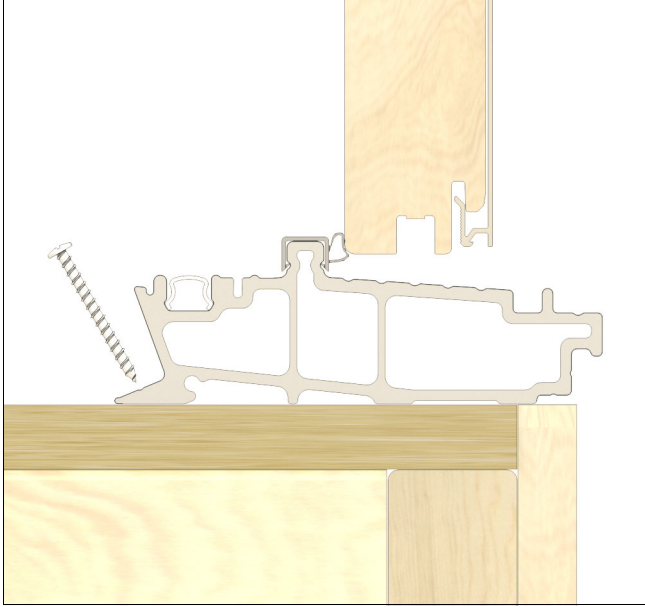

Figure 23
1. Use a minimum of a #8 x 1-1/2" pan head screw located a minimum of 4" from each corner and a minimum of 15" apart to secure the sill to the sub floor. See Figure 23.